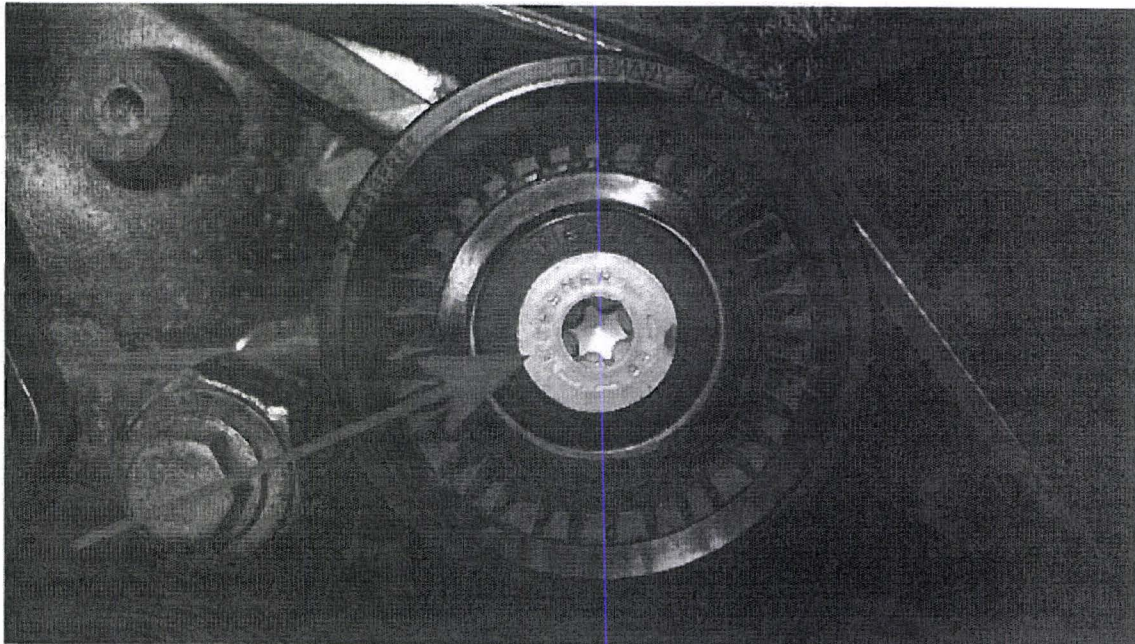

Figure 3
- The original pulley is secured with a Torx bolt as shown in Figure 3